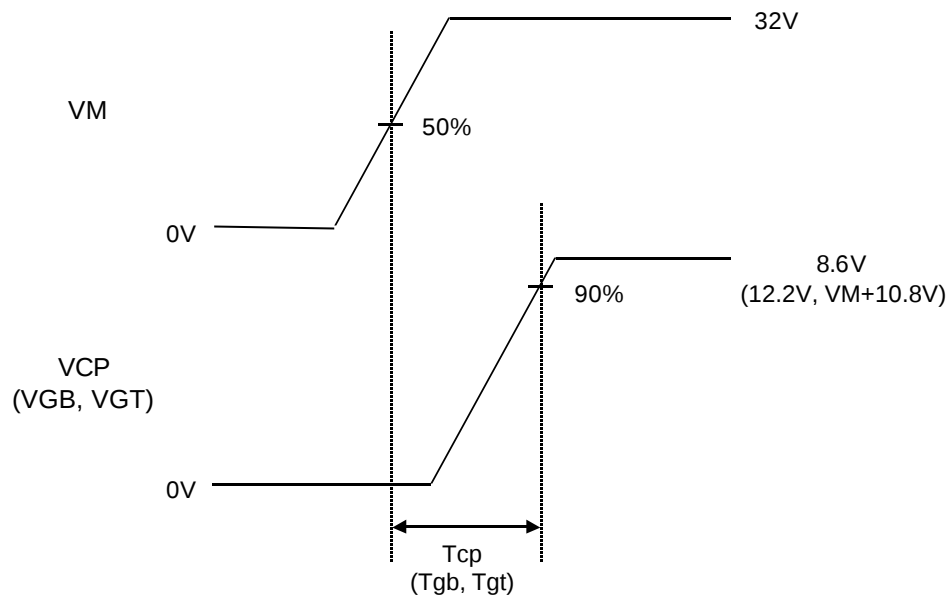

Fig.1 Charge-pump Pre-charge Time Definition
* Note2 : Please refer to the Fig.1.